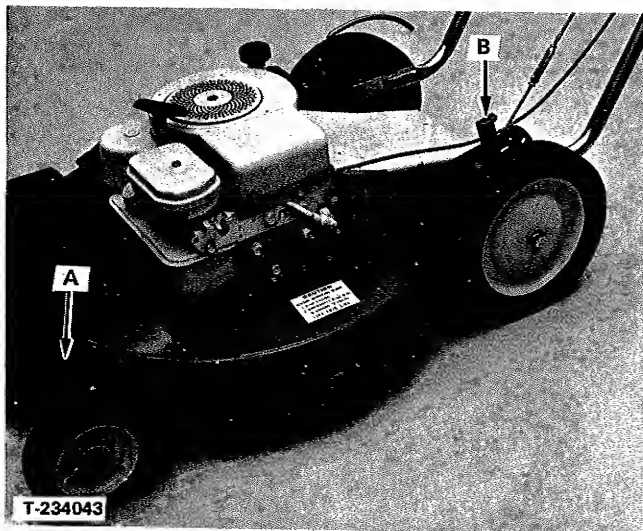

FIGURE 16 - HEIGHT ADJUSTMENT
The front wheels are individually adjusted moving the spring tabs (A, Figure 16) to the desired height. Both rear wheels are adjusted by moving the rear adjuster arm (B) up or down. Be sure to place both spring tabs and the rear adjuster arm in corresponding notches to keep the mower level.